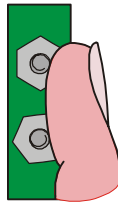

Figure 3-6
- √ Now touch the two leads of the conductivity sensor at the same time with your fingers as shown in Figure 3-6